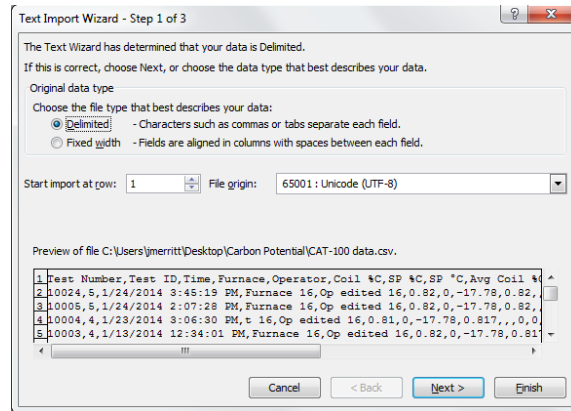

Figure 58 - Importing CSV file in Microsoft Excel (Step 1 of 3)
3. Choose “Delimited” for the “Original data type” (Figure 58). Click **Next**.